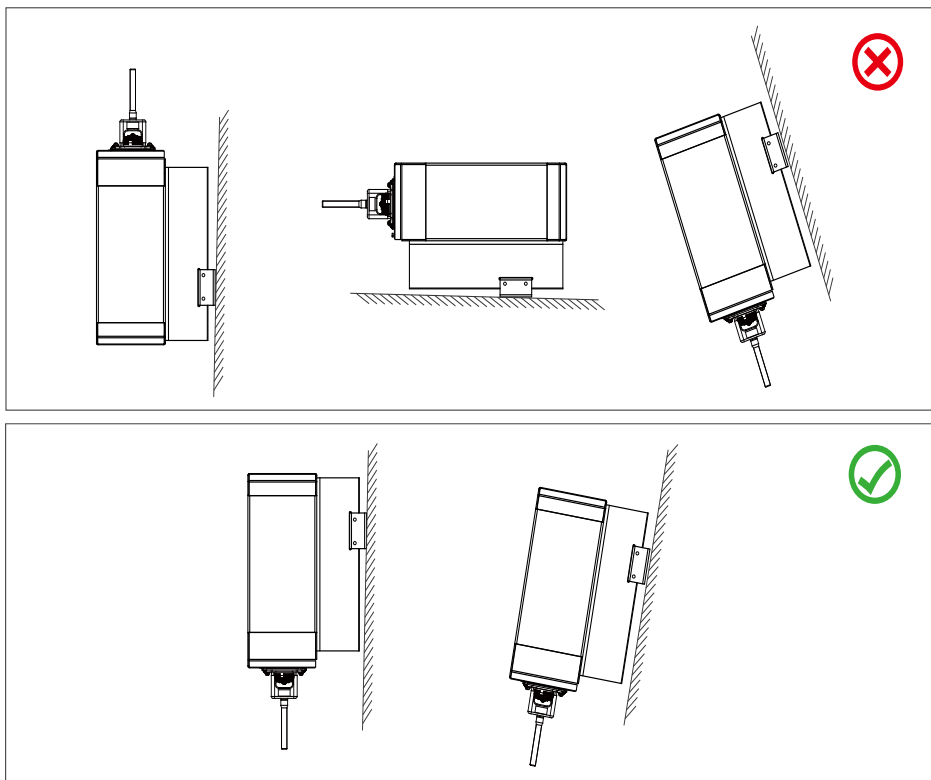

Figure-4.2 Installation angle
- Install vertically with a maximum incline of $\pm 15^\circ$. If the mounted inverter is tilted to an angle greater than this maximum angle, heat dissipation can be inhibited, and may result in less than expected output power (Installation angle shown in below figure-4.2).